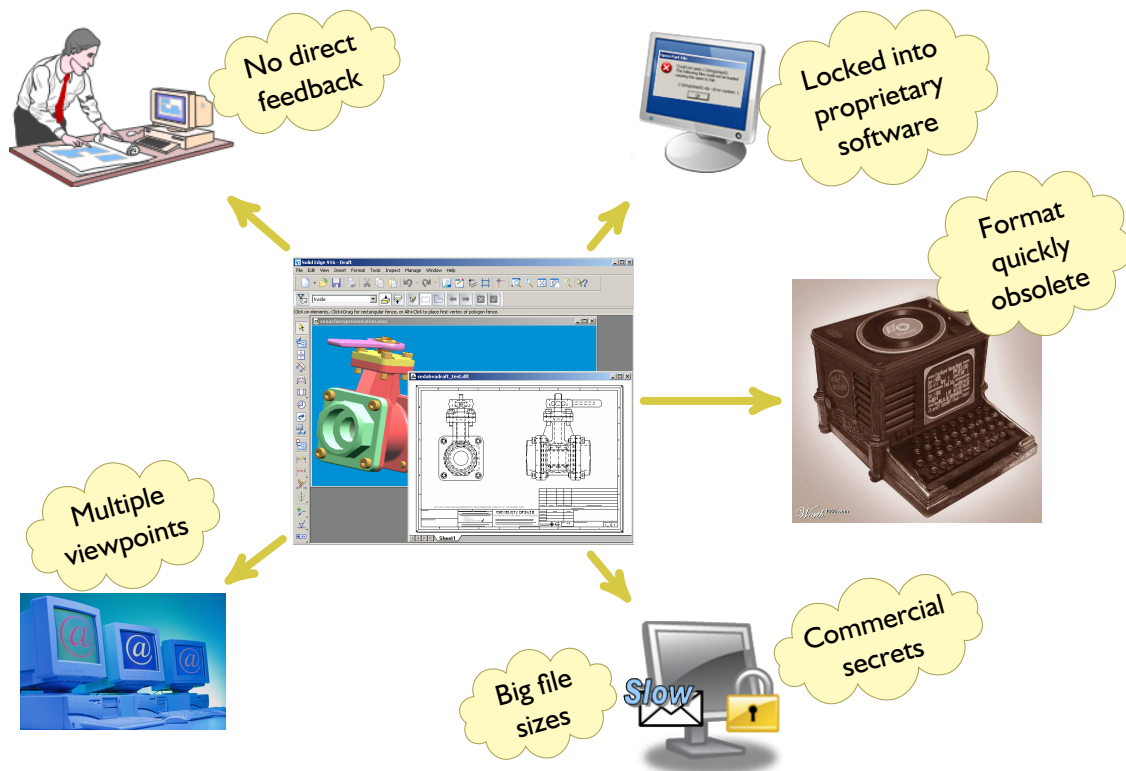

Figure 4: Limitations of CAD models
I should explain that the key limitations we hoped to address were as follows (Figure 4).
- Figure 4: Lian Ding.